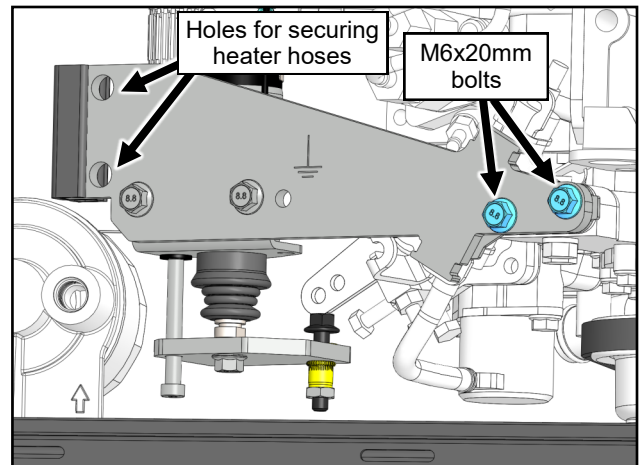

Fig. 4.2 (Solenoid assembly)
- 4.2 Per Figure 4.2, install the solenoid assembly on top of the tie-down plate, where the bolts were removed in step 4.1.